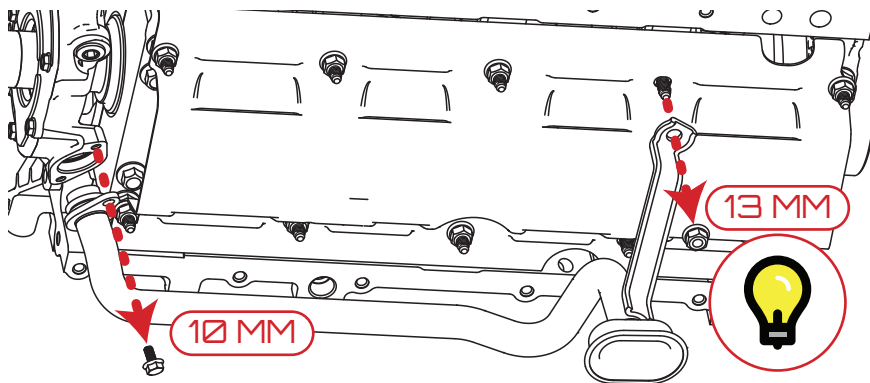

Figure 2 - Removing the Factory Oil Pickup Tube (Screen)
6. Wet-sump vehicles must remove the factory oil pickup tube (screen) from the oil pump and main stud(s) by using a 10 mm and 13 mm tool, shown in Figure 2. Set the pickup tube (screen) aside until reinstallation.